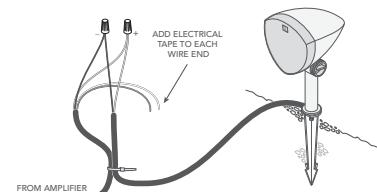

Figure 7
2. Starting at the speaker furthest from the amplifier, strip 3/4" of insulation on the cut end of the burial wires for the appropriate amp channel according to the tables below, then strip insulation from the ends of the corresponding speaker's pigtail. Wrap any unused wires in electrical tape to protect them from moisture and short-circuiting (see Figure 7).
3. Connect the burial cable to the speaker pigtail using a wire tie (see Figure 7).